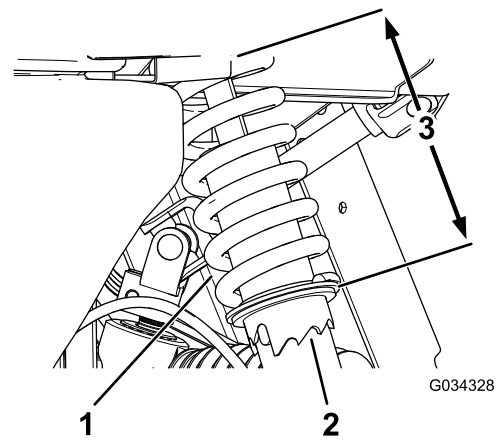

Figure 43
1. Using Toro Tool No. 6010, rotate the collar on the shock absorber to change the length of the spring (Figure 43).